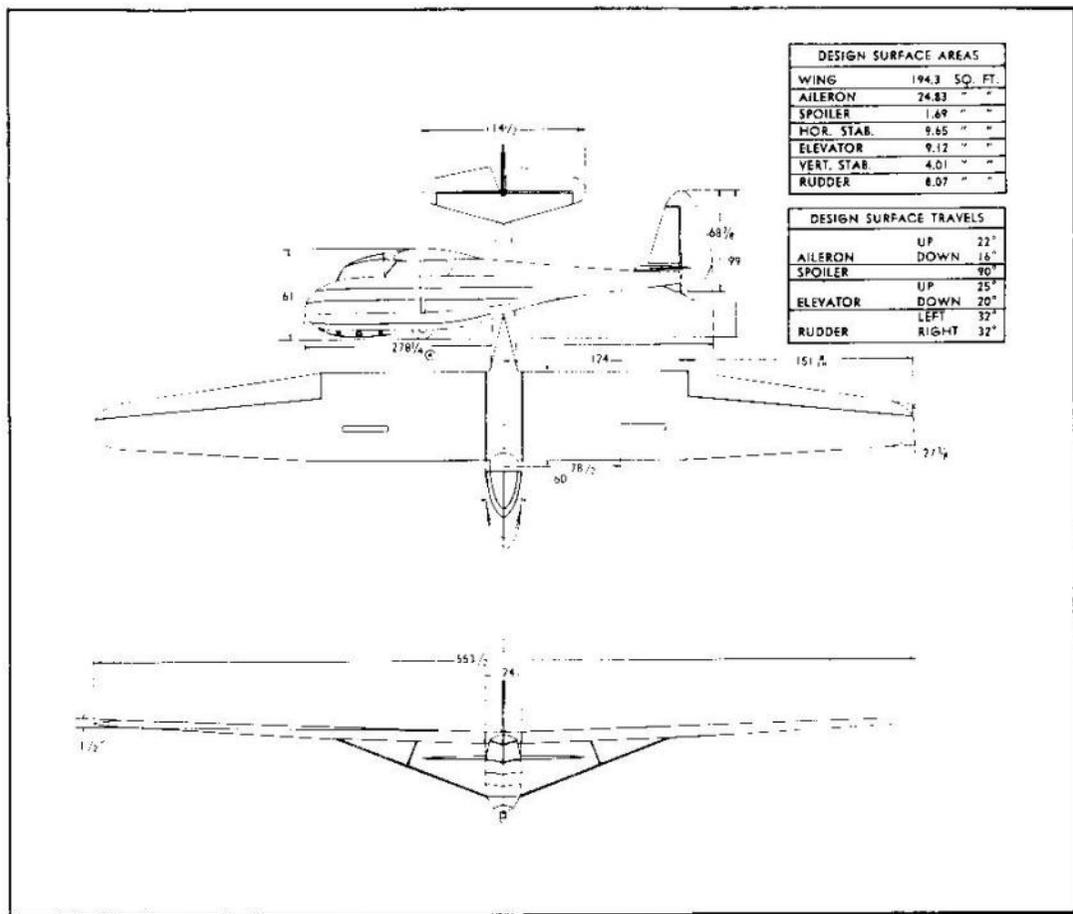

Figure 2 - Three-View Drawing of TG-1A Glider
2. LEADING DIMENSIONS. (See figure 2.)